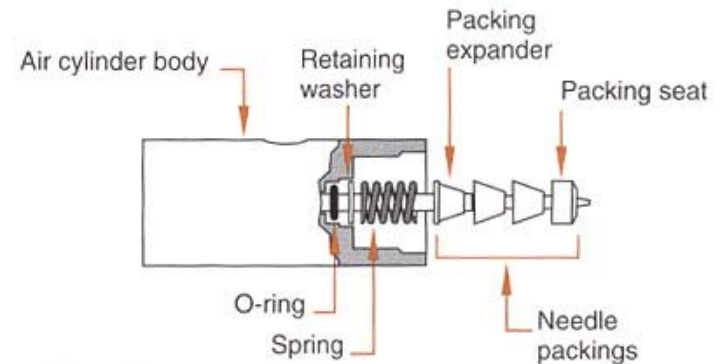

Figure 2
8. Lubricate the needle with Grease and reinstall the needle packing spring and packings in accordance with Figure 2.